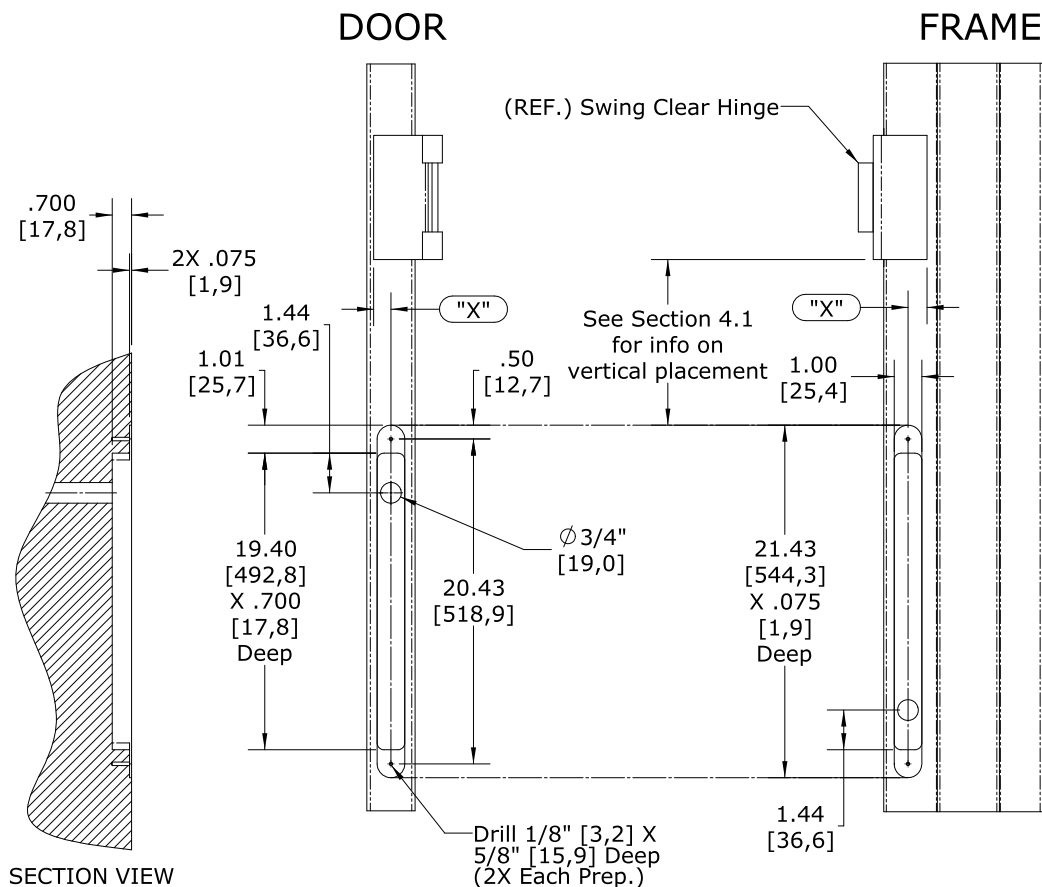
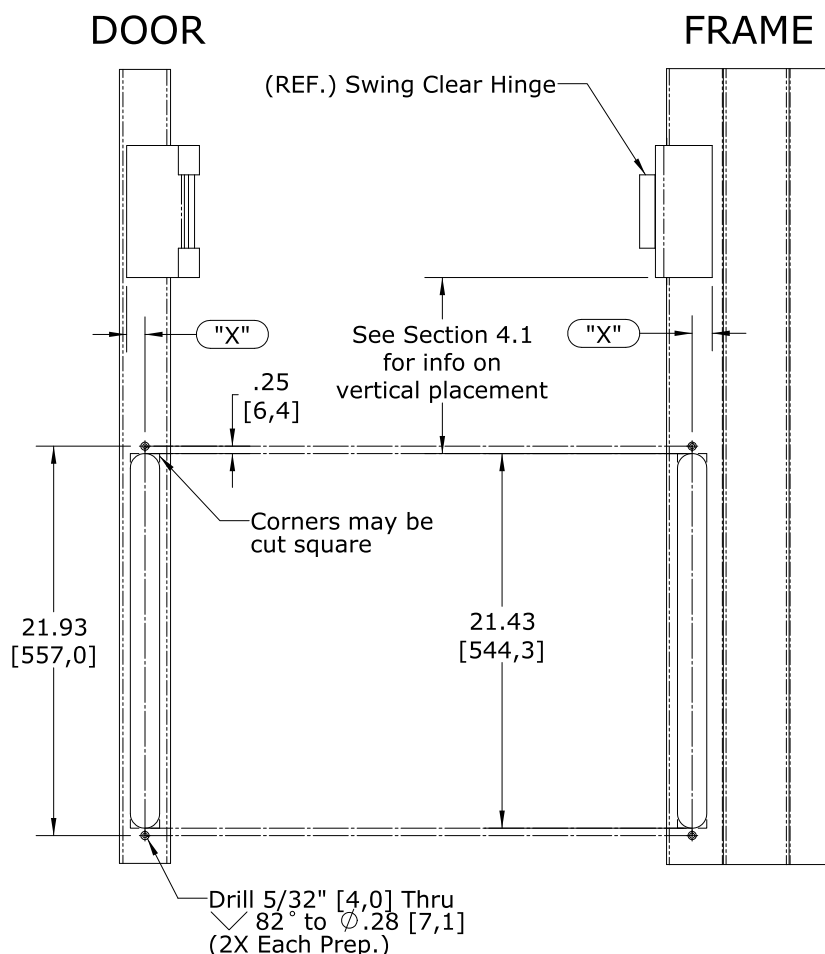

Figure 1 – Wood Door/Frame Prep.
Figure 2 – Metal Door/Frame Prep.
Because of potential structural obstacles within metal doors and frames, the EPTL-SC lead covers should be positioned a minimum of 6" [152,4mm] from the any hinge recess (as shown in **Figure 2**) or centered between hinges.
- Mark a vertical centerline for the EPTL-SC lead cover at the center of the door edge. Measure the distance from this mark to the edge of the hinge half that is attached to the door (see "X" of "DOOR" prep. in **Figure 1** or **Figure 2**). Use this same distance to mark from the edge of the hinge half on the frame (see "X" of "FRAME" prep. In **Figure 1** or **Figure 2**).
- Using the included template and the information shown in **Figure 1** (for wood) or **Figure 2** (for metal), align and mark the cutout positions required for the lead covers on both the door edge and the frame.
- Using a router with a 1/4" diameter bit, cut the main recess slot into the edge of the door and the frame to a depth of .700" [17,8mm] as shown in **Figure 1**.
Note: *The 3/4" [19,0mm] diameter holes required for the wire feed thru in the door and frame must be positioned at opposing ends with respect to each other. (i.e. if the hole is toward the top of the lead cover to go in the door, then the hole for the wire feed thru of the lead cover in the frame should be at the bottom (see Figure 1).*
- Mount each of the lead covers into place using a screwdriver and two (2) of the #6 X 5/8" Phillips flat head type "A" screws provided.
- Using a router or saw, create the cutout required for the lead cover. The cutout may be cut with a radius (as shown) or square-cornered as noted in **Figure 2**.